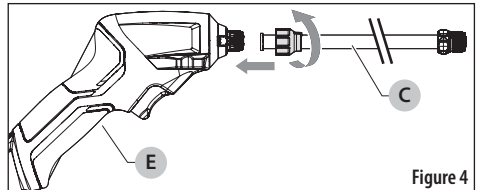

Figure 4
Install the wand extension (C) onto the power wand sprayer (E). Turn clockwise to tighten. See Figure 4.